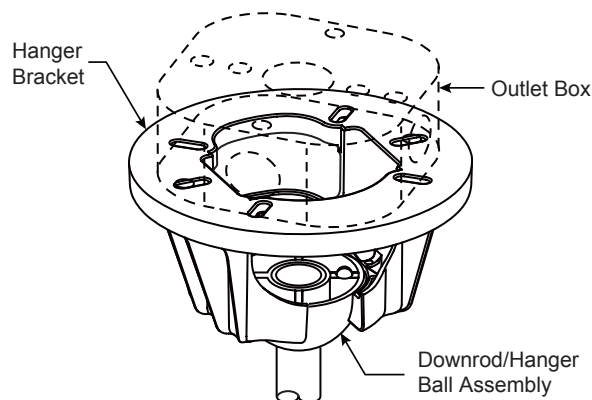

Figure 4
- ☐ 3. Carefully lift the fan and seat the downrod/hanger ball assembly onto the hanger bracket that was just attached to the outlet box. (Figure 4) Be sure the groove in the ball is lined up with tab on the hanger bracket. (Figure 3)